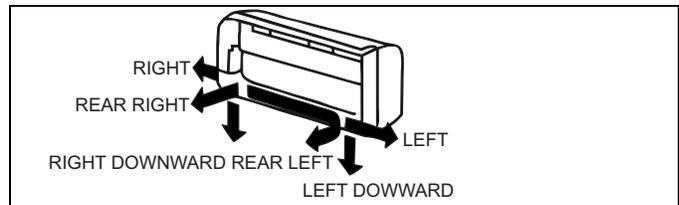

FIGURE 13: Drain Piping Outlets Option
4. Secure the wall mounting bracket to the wall using the provided screws. If possible, align the rear panel screw holes with wall stud locations marked on the wall. Make sure you use as many screws into studs as possible. All other screws must be secured using plastic wall anchors. See Figure 13.
5. If the wall is made of brick, concrete or other similar material, then drill pilot holes in the wall. Insert field-provided anchors for mounting screws. See Figure 13.